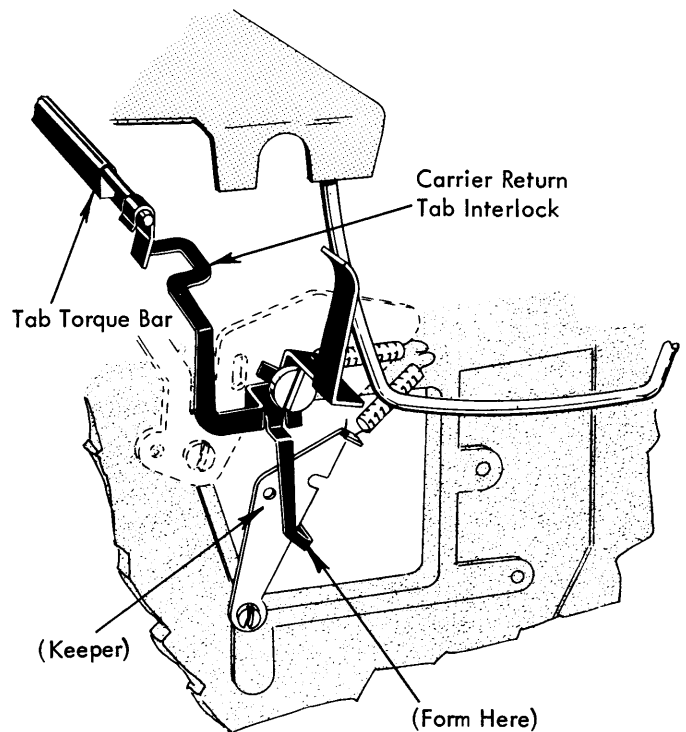

FIGURE 169. Carriage Return/Tab Interlock
8. **Carrier Return/Tab Interlock** - Form the bottom lug of the interlock (Fig. 169) to obtain the following conditions: